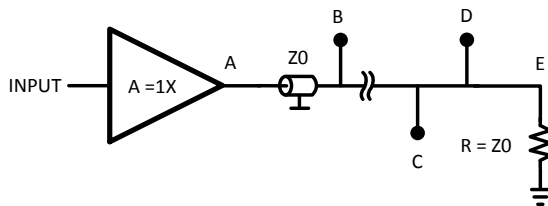

Figure 37.
- Use one buffer to drive to multiple points on one transmission line (see Figure 37)
Another transmission line possibility is to route the trace via several points along a transmission line (Figure 37). This is only possible if care is taken to observe certain restrictions. Failure to do so will result in impedance discontinuities that will cause distortion of the signal. In the configuration of Figure 37 there is a transmission line connected to the buffer output and the end of the line is terminated with Z_0 . We have seen in the Connecting A Load Using A Transmission Line section that for the condition above, the signal throughout the entire transmission line has the same value, that the value is the nominal value initiated by the opamp output, and no reflections occur at the end point. Because of the lack of reflections no interferences will occur. Consequently the signal has every where on the line the same amplitude. This allows the possibility of feeding this signal to the input port of any device which has high ohmic impedance and low input capacitance. In doing so keep in mind that the transient arrives at different times at the connected points in the transmission line. The speed of light in vacuum, which is about 3×10^8 m/sec, reduces through a transmission line or a cable down to a value of about 2×10^8 m/sec. The distance the signal will travel in 1ns is calculated by solving the following formula: